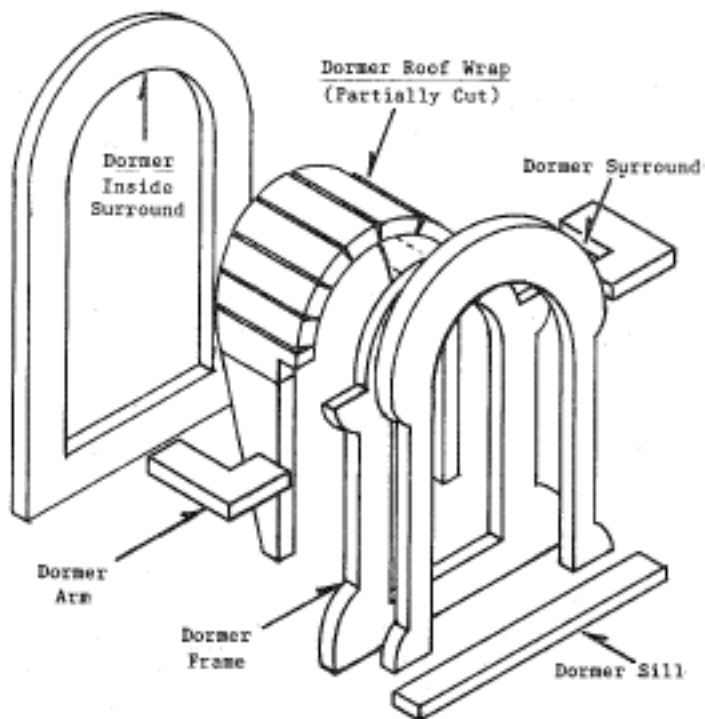

Figure 38
4. Assemble Dormer as in Figure 38.